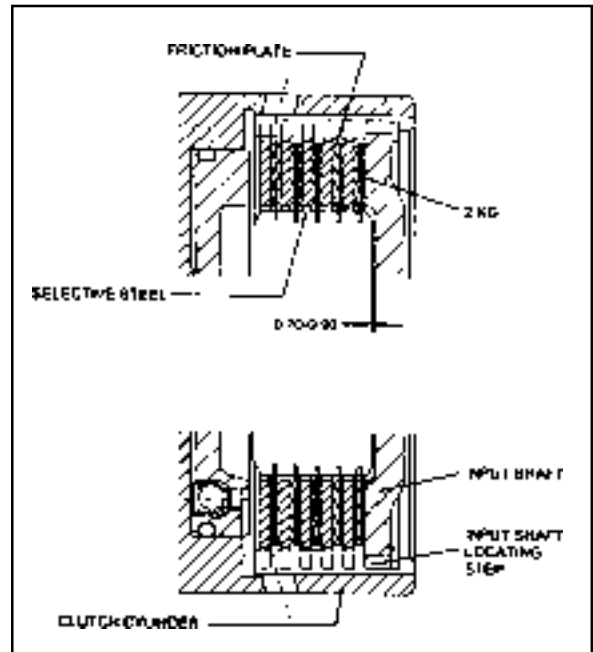

Figure 8.31 - Typical C1 Clutch Assembly Clearance
4. Check the clutch pack clearance using special tool No.0555-331900. Refer to figure 8.31.